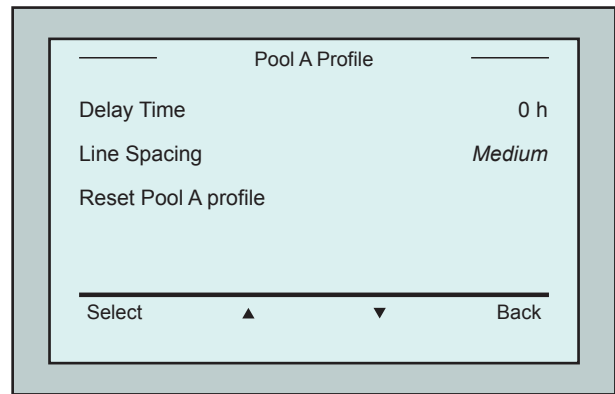

Figure 15: *Pool A* menu: Second screen
11. After setting the *Scan Mode*, from the *Pool Profile* screen, scroll down to the next screen (Figure 15).